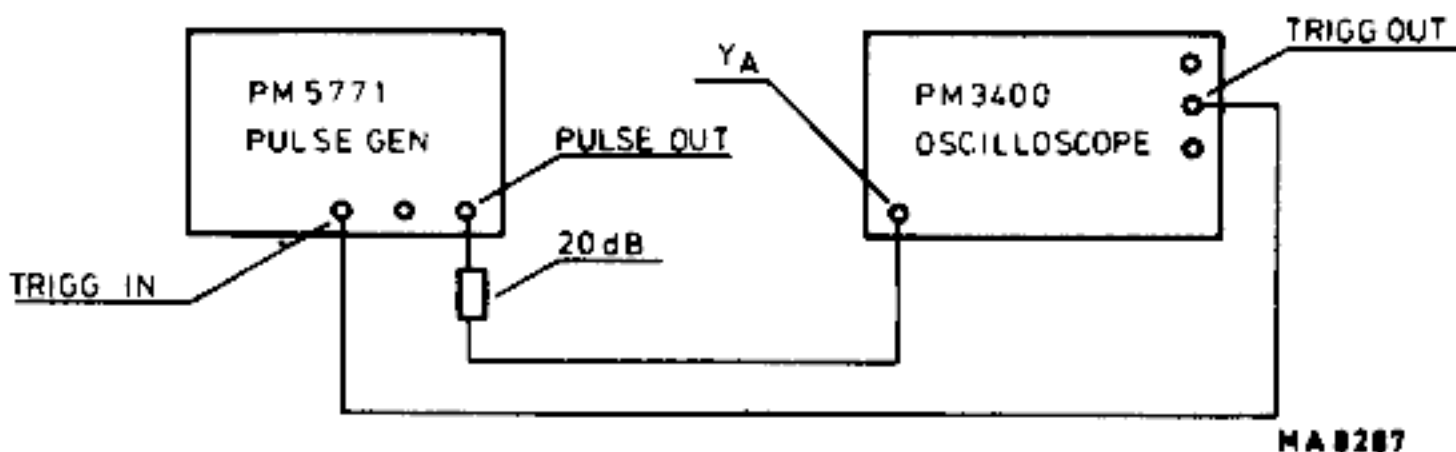

Fig. X-6. Set-up for calibration of delay time
- 3.5. — Connect pulse generator to oscilloscope as shown in Fig. X-6.